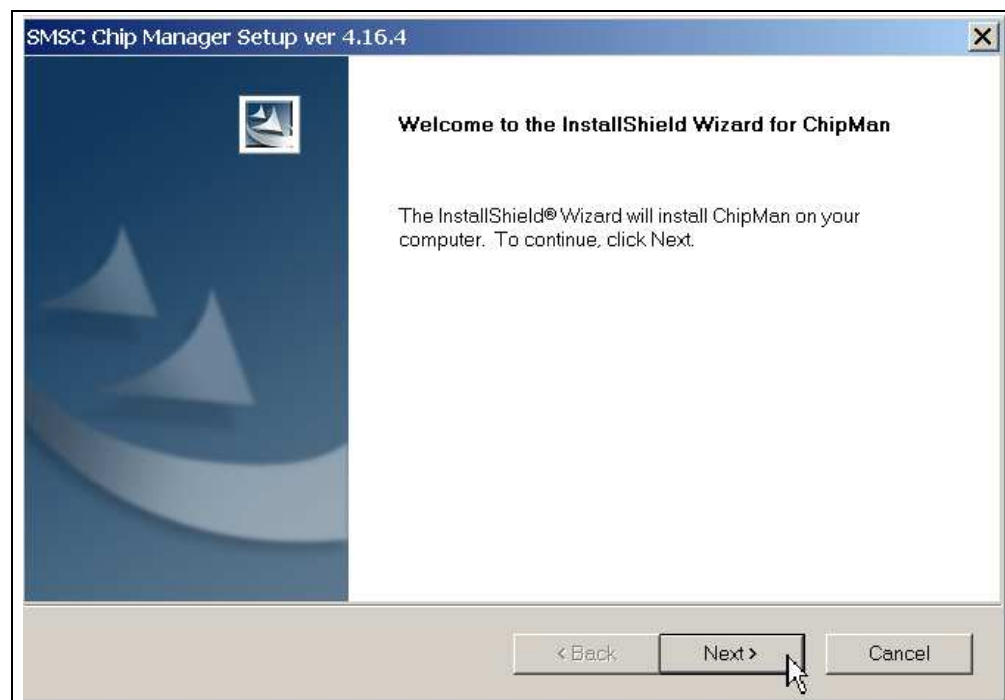

FIGURE 2-2: *InstallShield Wizard Startup Window.*
5. After the driver installation is complete, the initial setup screen for the Chip Manager application appears (see Figure 2-2). Click **Next** to start the installation.